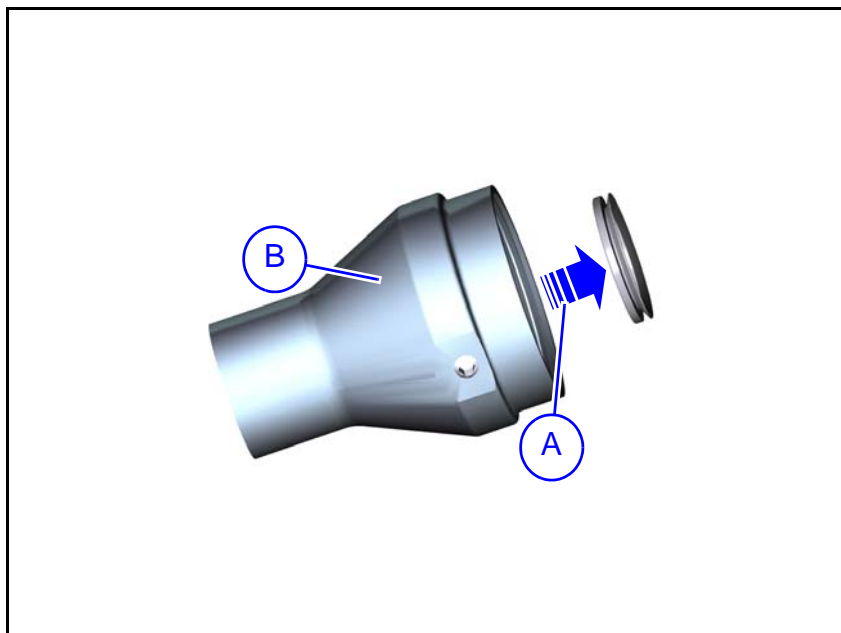
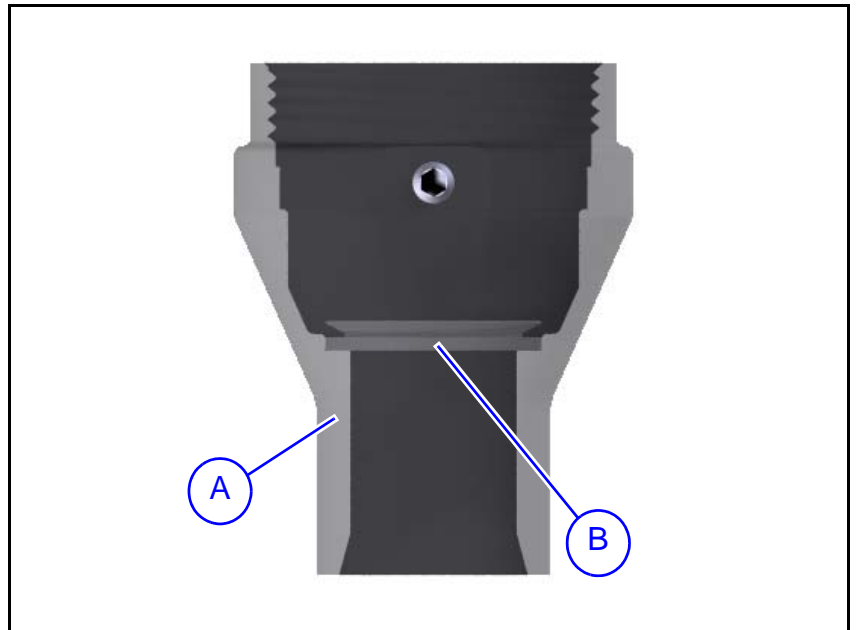

Figure 16-36. Tool holder.
Figure 16-37. Tool holder (front view)
5. Remove the old theta sealing ('A' in Figure 16-36 and 16-37 ) from the tool holder and insert a new theta sealing with the thicker edge facing the bottom of the tool holder, see Figure 16-37.
6. Lubricate gently with Omega 28 grease on the lip side (top surface in Figure 16-37) Do not use excessive grease since it may pollute the force sensor diodes.
7. Use a theta sealing tool to carefully orient the theta sealing ('A') to be properly seated in the recess at the bottom of the tool holder (see Figure 16-37).